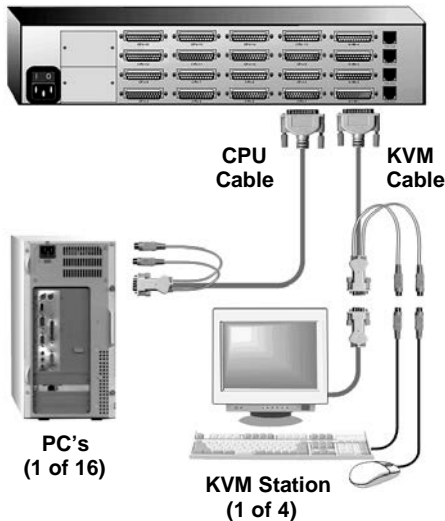

Figure 3. Single Unit configuration
The Unit in Figure 3 can be any UltraMatrix 2xE or 4xE model
**STEPS:** (See Figure 3 for an example of a single Unit installation)